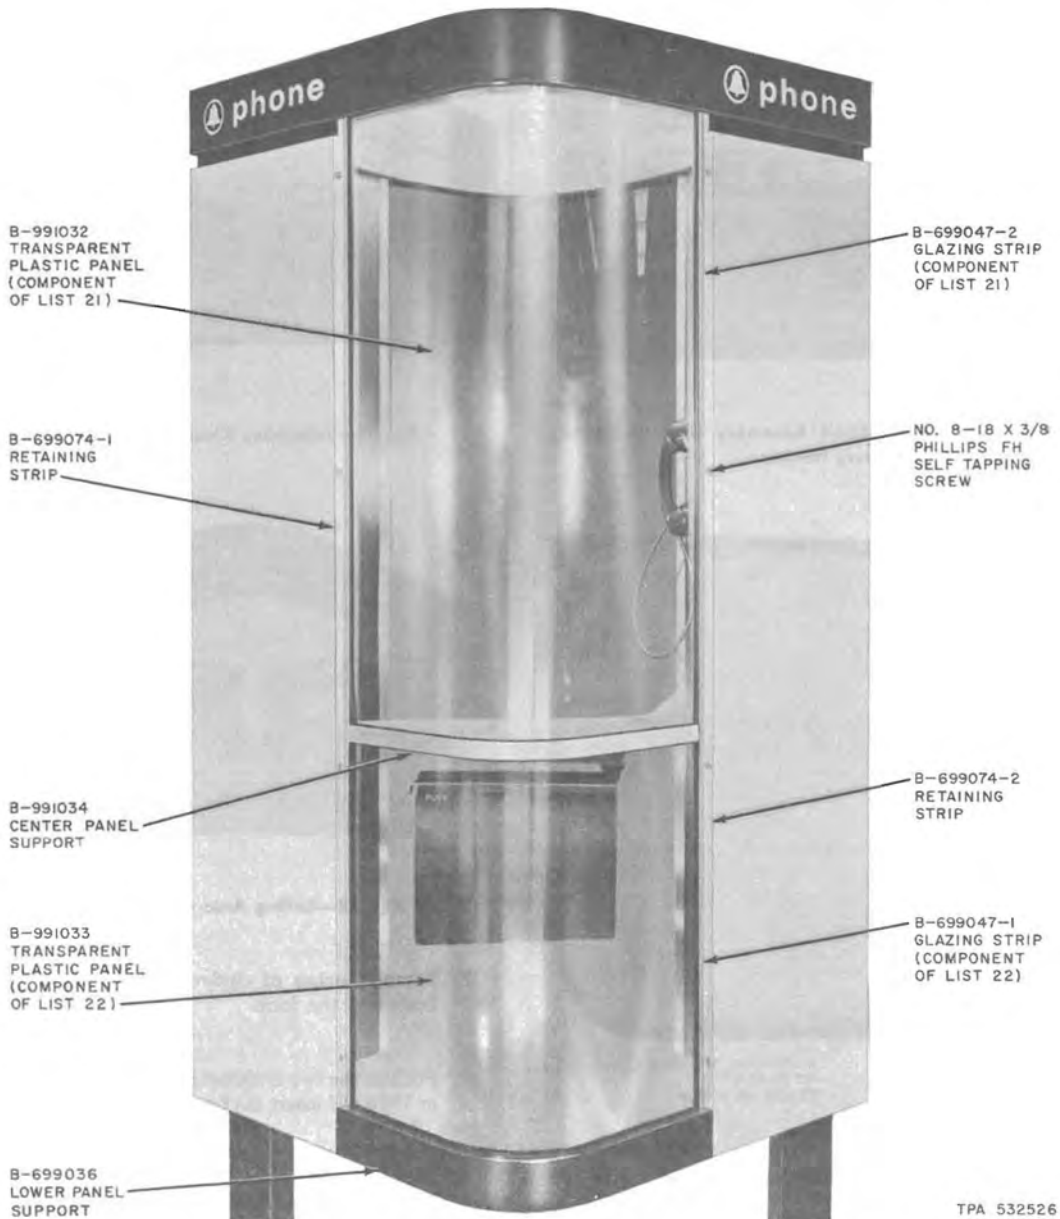

Fig. 8—Telephone Kiosk—Rear View
2.06 A two sectioned curved transparent plastic panel forms the entire rear corner between the side walls (Fig. 8). It affords natural booth lighting in the daytime, protection from the weather, and conversational privacy.